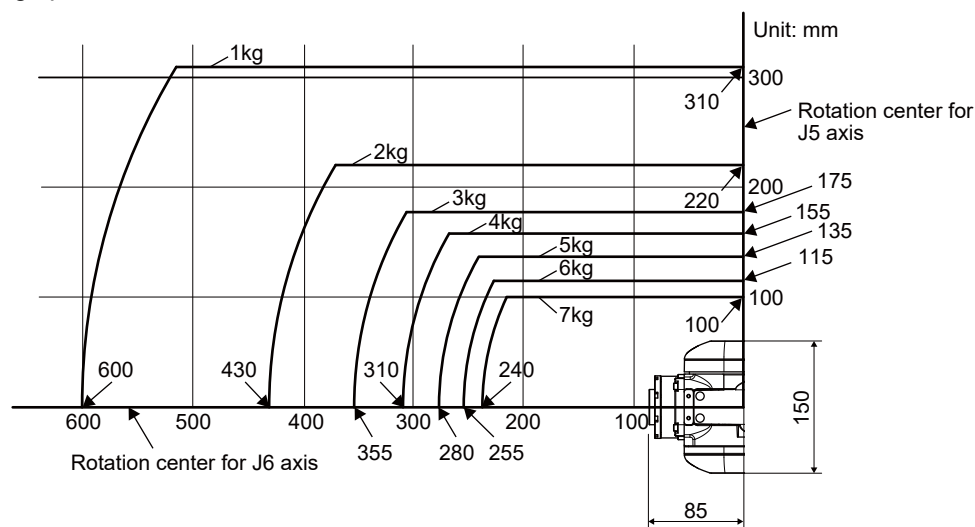

Fig.2-1: Positions of the centers of gravity for loads with relatively small volume
- (2) Fig. 2-1 shows the distribution dimensions for the positions of the centers of gravity for loads with relatively small volume. Refer to the figure for designing tooling.
- (3) Even if the load is force, not the mass, design the tooling so that moment does not exceed the allowable moment. Refer to Page 9, "2.1 Standard specifications" for details of allowable moment value.